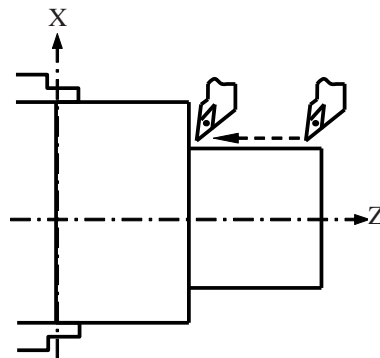

Figure 1.2 Linear Interpolation (1)
- 1) Tool movement along a straight line (Figure 1.2).